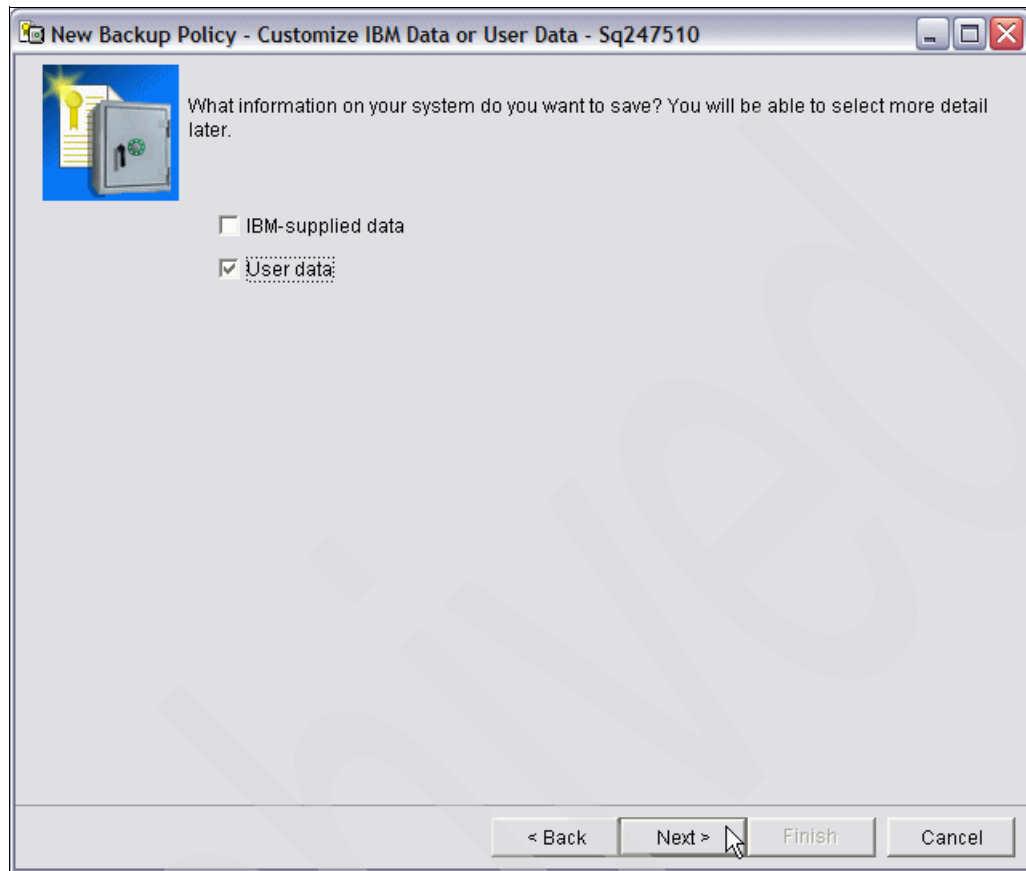

Figure 6-48 New Backup Policy - Customize IBM Data or User Data
6. In the next window (Figure 6-48), we are asked what type of customized data do we want to save, IBM or user or both. We select **User data** and click **Next**.